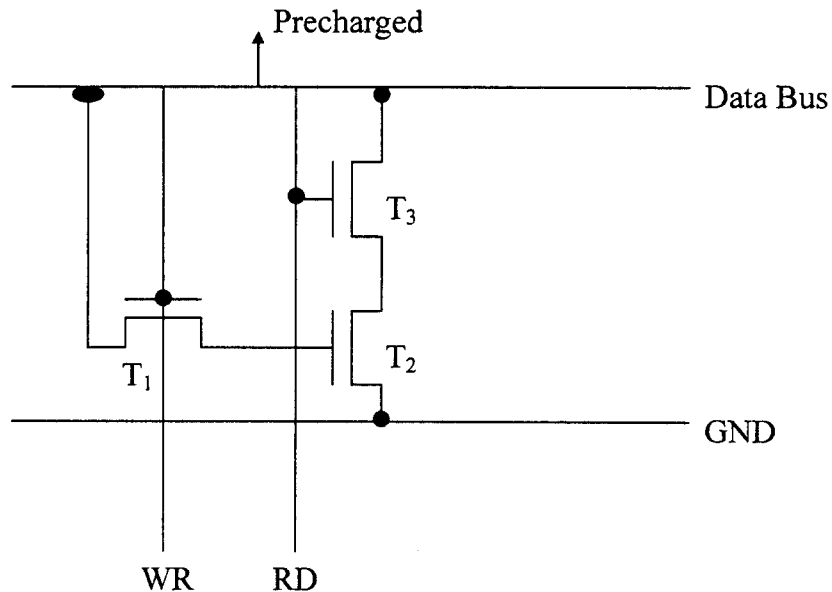

Fig. Q2.1
- Q.2 (a) Explain how the read, write operations are performed and storage is achieved using the dynamic random access memory cell shown in Fig Q2.1. Why is this cell dynamic and needs a refresh?
- (b) In this part of the question, use graph paper and colour pencils to draw a custom layout of the cell shown in Fig. Q2.1, with a built-in ease to route WR, RD, data and ground lines. Include appropriate substrate connection. Obey all λ based design rules. Use a scale of $2\lambda = 1$ cm or less and conform to standard colour codes. The standard colour codes are brown for n-well, black for contact, blue for the only metal layer, red for polysilicon, green for n-type source-drain (NSD) and purple for p-type source-drain (PSD). Choose device dimensions of $W = 4\lambda$ and $L = 2\lambda$ for all devices. In the λ based design rules, the n-well coverage of PSD is 3λ , the unconnected PSD-NSD spacing is 8λ , the minimum dimension/spacing of metal, poly, NSD, PSD and contact is 2λ , the coverage of contact by connecting layers is λ on all sides, the poly extension beyond NSD/PSD is 2λ and the poly to NSD/PSD contact spacing is 2λ .